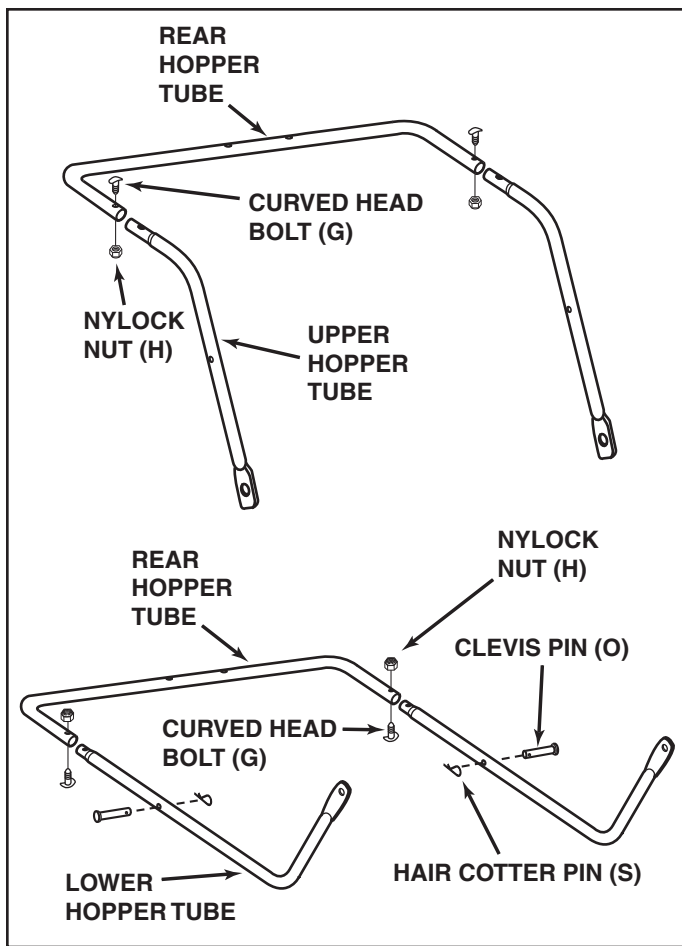

FIGURE 11
- Fit the ends of the two upper hopper tubes into the ends of a rear hopper tube. Align the holes in the ends of the tubes and secure them in place using two curved head bolts (G) and nylock nuts (H). See figure 11.
- Fit the ends of the two lower hopper tubes into the ends of a rear hopper tube. Align the holes in the ends of the tubes and secure them in place using two curved head bolts (G) and nylock nuts (H). See figure 11.
- Insert a clevis pin (O) from the outside into each lower hopper tube and secure it with a hair cotter pin (S). See figure 11.